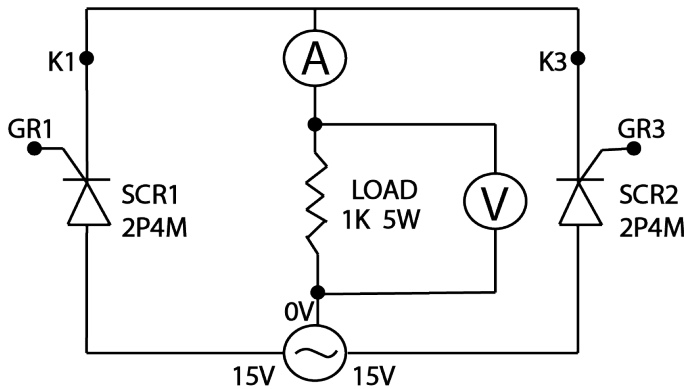

Figure 27
1. Connect the circuit as shown in Figure 27.
6. Connect circuit, as shown in Figure 27, using patch cords.